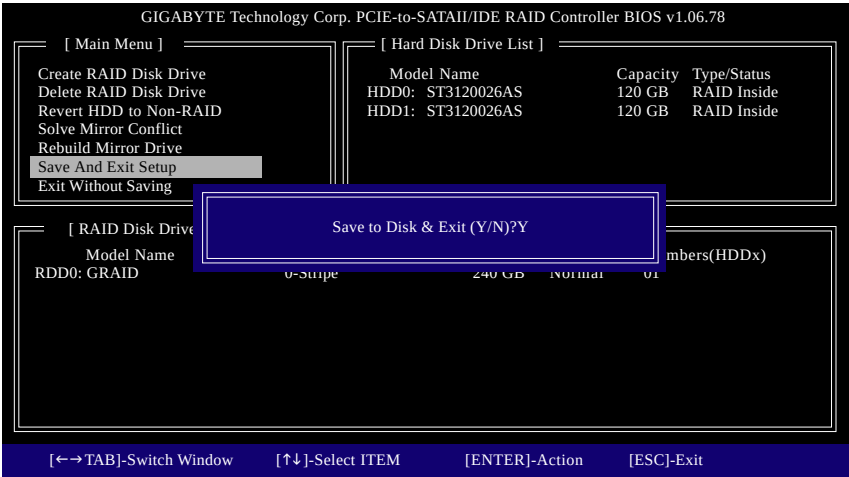

Figure 10
7. **Save and Exit Setup:** After configuring the RAID array, select the Save And Exit Setup item in the main screen to save your settings before exiting the RAID BIOS utility, then press <Y> (Figure 10).